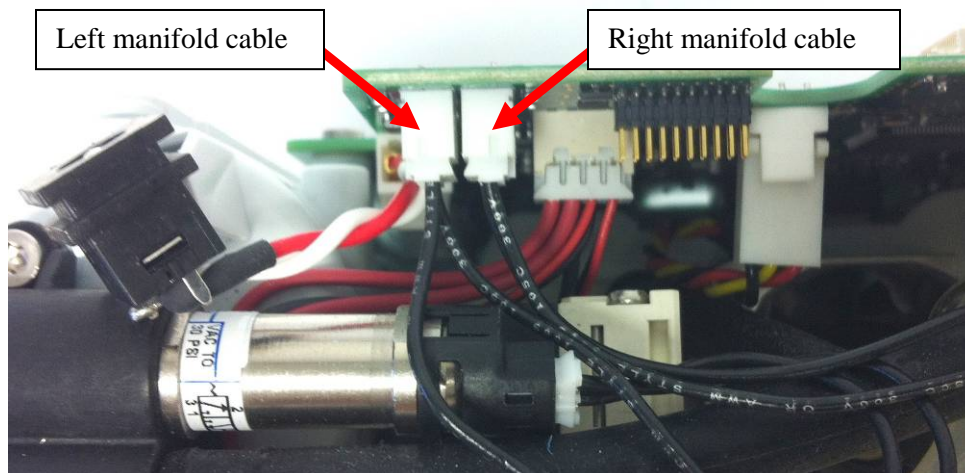

Figure 9: Feed waste manifold cables
1. Locate the manifold cable corresponding to the manifold being replaced and disconnect this cable from the motherboard (Figure 9).
3. Connect the manifold cable to the motherboard and make sure the connector is fully seated on the pins (Figure 9).